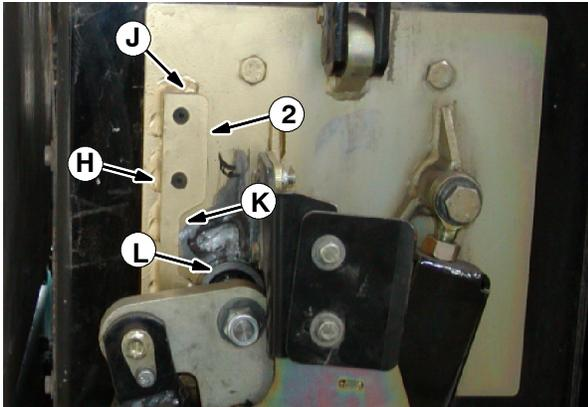

FIG. 3
8. Position the plate fixture (1)(not shown) against the front cam bracket (G).
9. Position a cam (2) against the plate assembly (1) positioned on the front cam bracket.
10. Weld the cam (2) onto the plate. Weld only along the outer edge (H) and the top (J) and bottom of the cam. Be sure the cam stays flat against the plate when welding the cam into place. **Do not** weld along the inner edge (K) of the cam where the cam roller bearing (L) travels. Refer to Fig. 3.